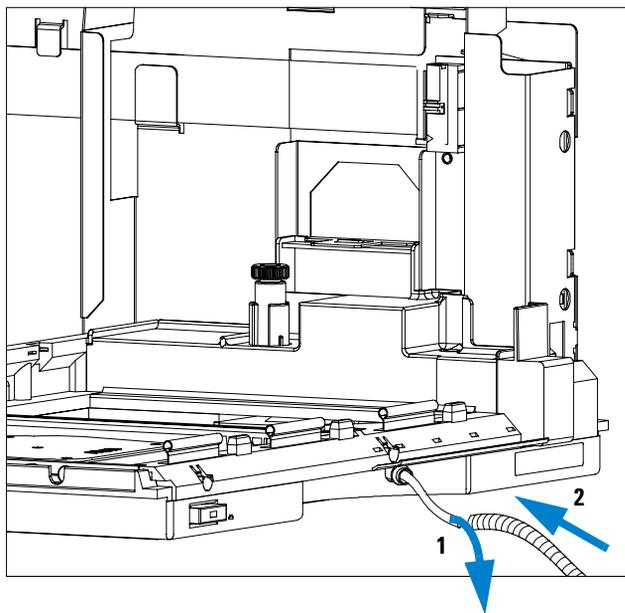

Figure 2 Installing the Corrugated Waste Tubing in the Plastic Port
- 5 Install the corrugated waste tube in the plastic port at the front bottom center of the instrument. Slide the waste tubing coming from the internal tray (if present) through the plastic port and the corrugated waste tube (see Figure 2 on page 21). Route the corrugated waste tubing into a waste container.
Figure 2 on page 21). Route the corrugated waste tubing into a waste container.